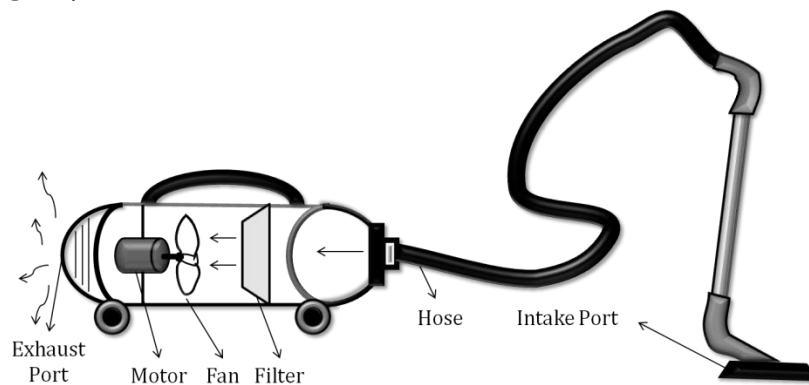

Figure 17: Illustration of main parts of a vacuum cleaner
3. The filter that blocks the dust particles while permitting air molecules to pass (see Fig. 17)